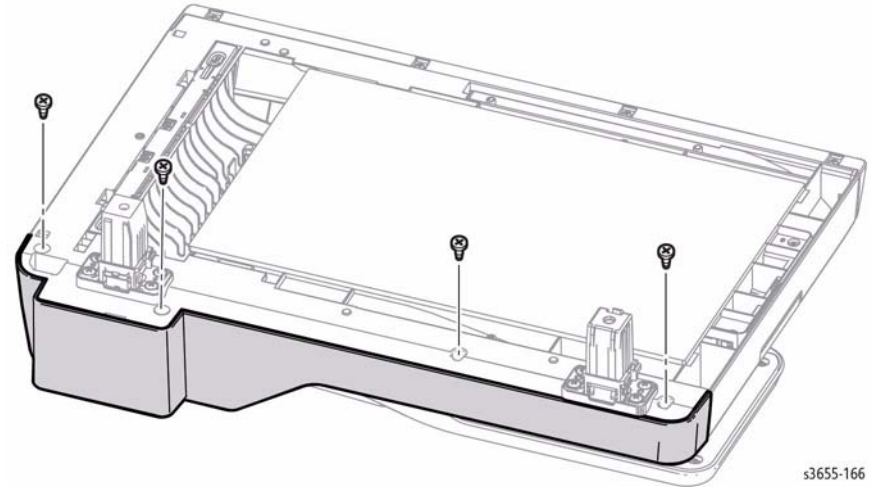

Figure 1 Remove the Rear Cover screws
2. Refer to Figure 1 to locate and remove 4 screws (silver, tapping, 8mm) from the bottom of the DADF rear cover and release 1 hook on the tray to remove the cover.